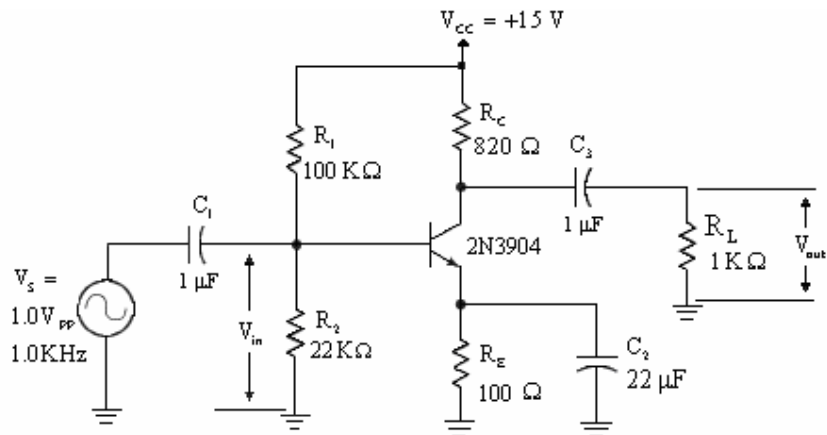

Fig.3: CE Amplifier
2. Construct the amplifier shown in Figure 3. The signal generator should be turned off. Measure and record the DC voltages listed in Table 1.
3. Using the measured resistances and the value of β determined in step (2), compute the DC parameters listed in Table 1 for the CE amplifier shown in Figure 3. Your measured and computed values should agree within 10%. (Show your calculations)
7. Restore the circuit to its original configuration shown in Figure 3. Set R_L to $1k\Omega$, and measure the peak-to-peak value of the output waveform. Record your measured and calculated values. Use this measured voltage to calculate the voltage gain from the input to the load V_L/V_{in} . Record it in Table 2.
10. With C_2 open (R_E unbypassed): repeat steps (7) and (8). Compare the result values with the calculated values obtained from step (4).